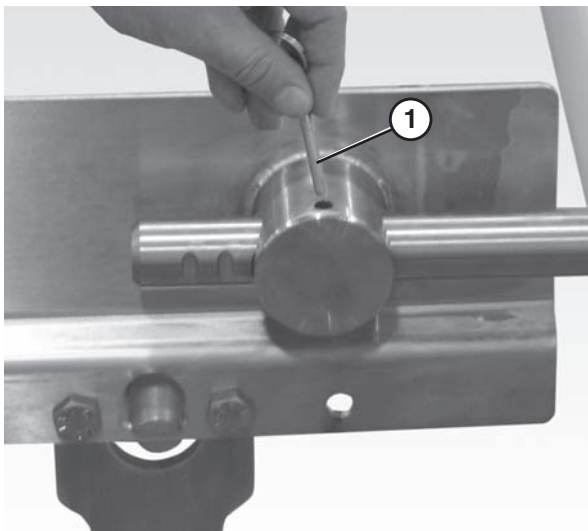

Figure 69
1. Remove the pull pins (**Figure 69, item 1**).